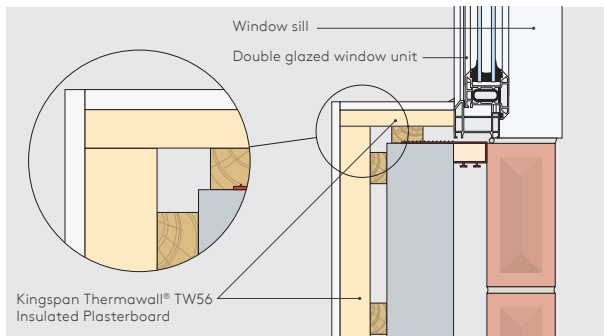

Figure 7: Insulated reveal and external corner
- The use of a thinner sheet of Kingspan Thermawall® TW56 Insulated Plasterboard at reveals may be necessary (see Figure 7).